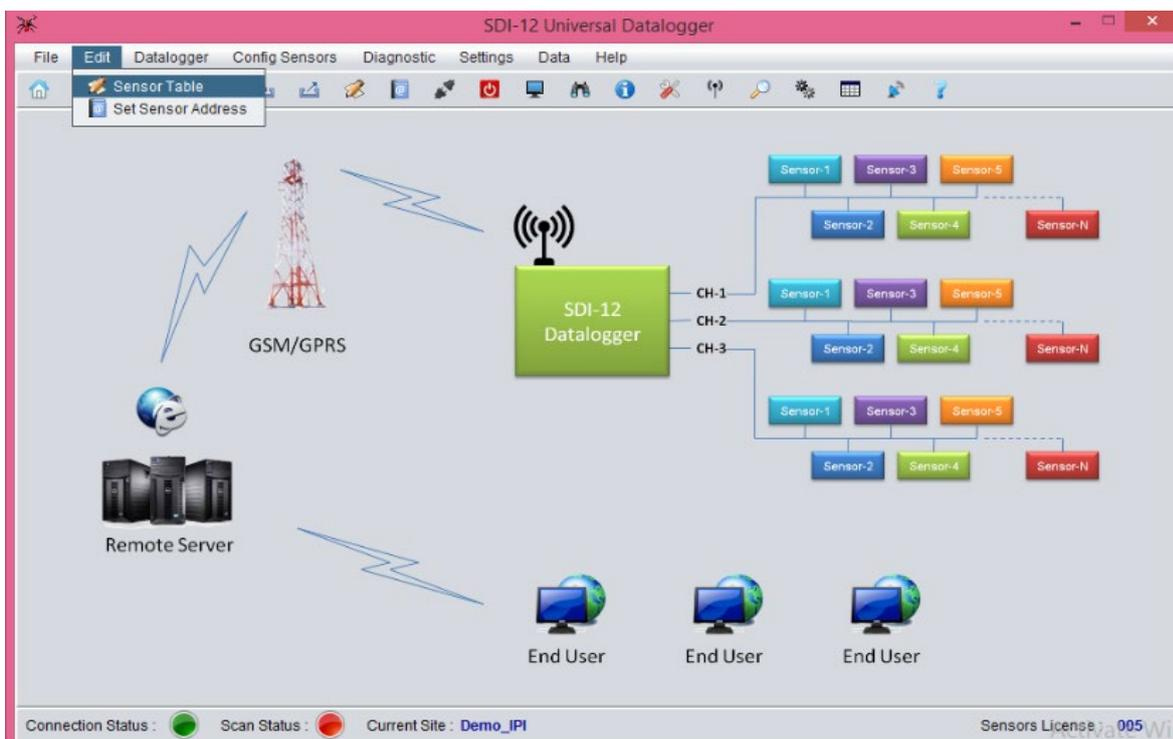

Figure 7-16 Edit menu with sensor table option of EDSL-30UNI Configuration Manger Software
- Click "Edit" menu followed by "Sensor Table" as shown in figure 7-16 below to define the parameter name & unit of each sensor